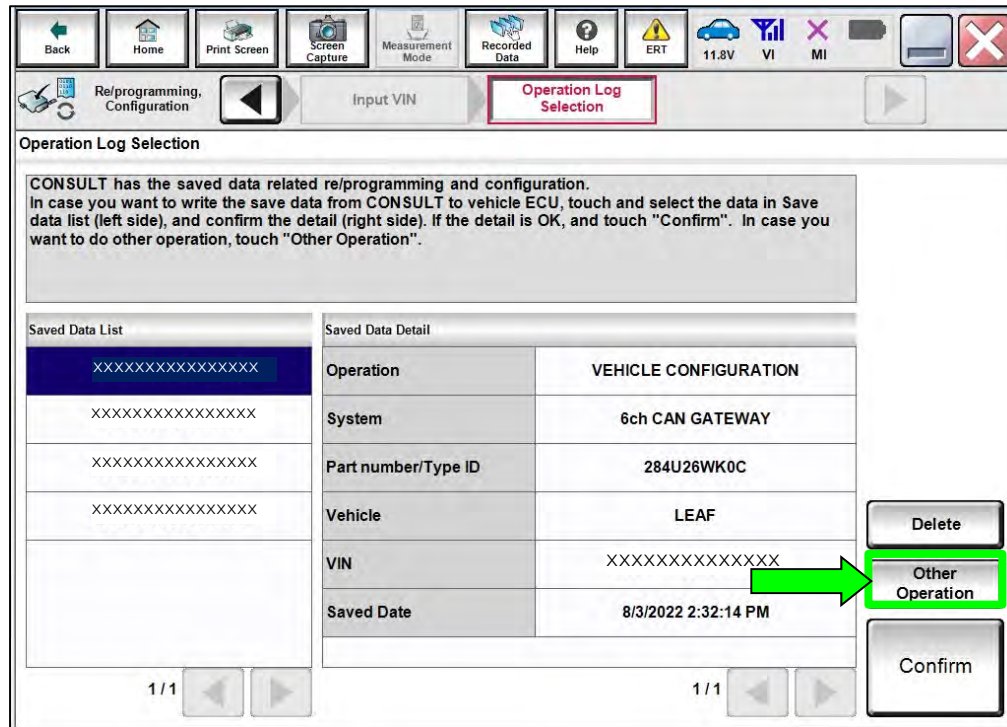

Figure 8
- If the screen in Figure 8 displays, select **Other Operation**.